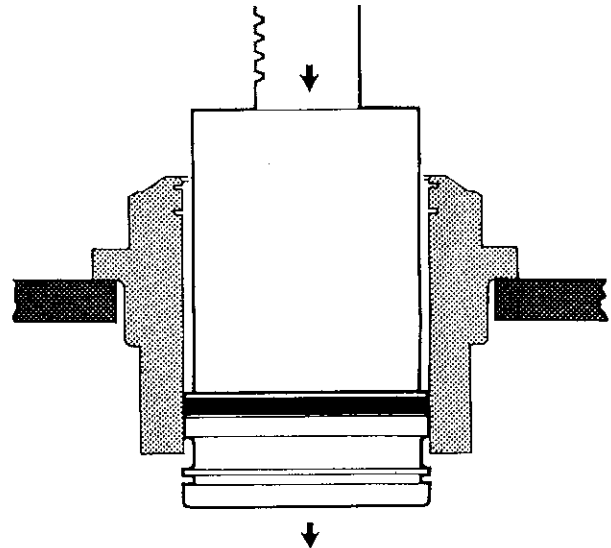

Figure 4.14
21. Invert the drive housing and remove the second retaining ring (15). This will provide additional clearance for pressing out the piston actuator (19).
22. Remove the piston actuator in direction shown in Figure 4.14.